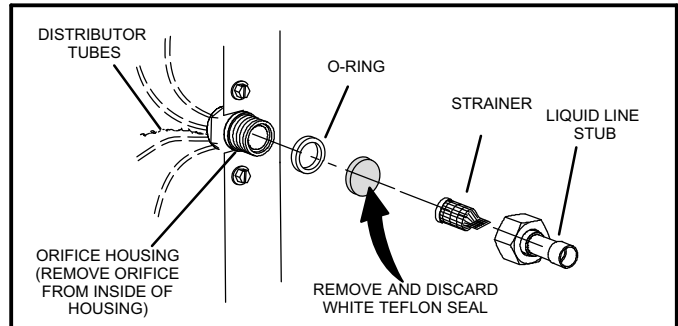

Figure 4. Typical Fixed Orifice Removal
4. Remove and discard the existing orifice, valve stem assembly (if present) and Teflon ring as illustrated in figure 4.